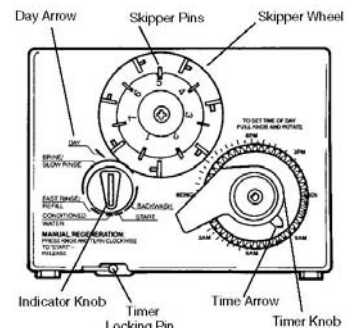

Figure 11
- 1. Remove control valve cover. Note: The following steps will require turning the indicator knob (Figure 11) to various positions. Insert a wide-blade screwdriver into arrow slot in indicator knob and press in firmly. With knob held in, rotate COUNTER CLOCK WISE only until arrow or knob points to desired position. Rotation is made much easier if you grasp the camshaft with your free hand and turn it at the same time. Then permit knob to spring back out.
- 2. Insert screwdriver into slot in indicator knob (Figure 11). Press in and rotate knob COUNTER CLOCK WISE until arrow points directly to the word BACKWASH.
- 1. Set days of regeneration on skipper wheel (Figure 11).
• Release timer knob. Note: With the time of day properly set, the conditioner will regenerate at about 2:30 a.m. If you prefer to have the unit regenerate at an earlier or later time, simply set current time-of-day accordingly (e.g., to have the unit regenerate at 4:30 a.m.—two hours later—set the clock two hours earlier than the actual time of day.) Note: The Timer Locking Pin should always be horizontal (Figure 11) during operation.